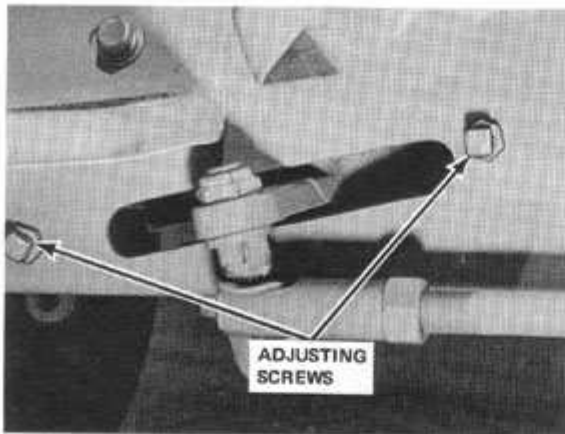

Figure 29
A. You will find a slot in the right hand frame at the rear of the steering drag link where it connects to the steering gear. (See Figure 29.) Near each end of this slot is a square head setscrew, with lock nut, inserted in the frame.